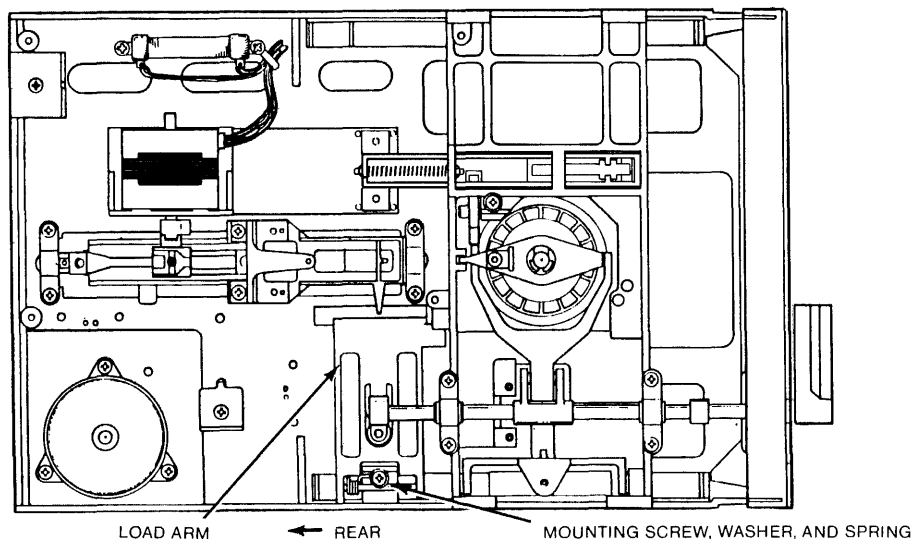

Figure 5-12
- B. Remove the mounting screw and washer that are used to attach the Load Arm Assembly to the chassis (see Figure 5-12).